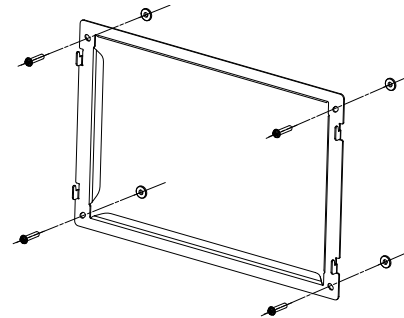

Fig. 4 — Installing the Back Plate Washers
Make sure the metal hooks are facing upward. Attach the mounting plate (2) onto the mounting box (3) using the four long screws (4) and four plastic washers. Do not overtighten the screws. See Figures 4 and 5.